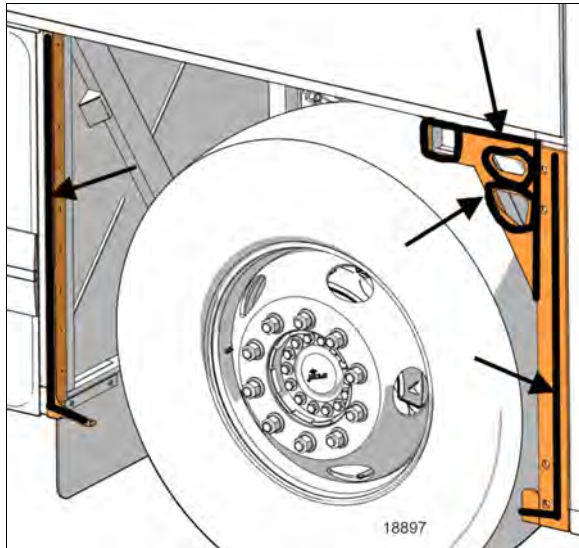

FIGURE 144: GLUE APPLICATION
9. Apply glue Simsons 70-03 (685126) on the fender mounting faces as shown in Figure 144.